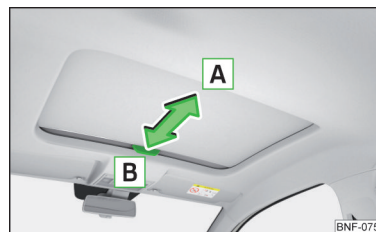

Fig. 39
- » To **open**, pull the handle in the direction of arrow **A** » Fig. 39.